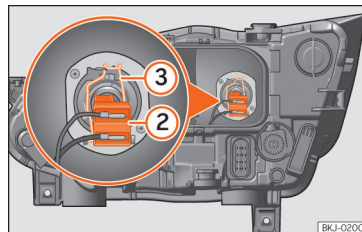

Fig. 55 In the engine compartment: dipped beam headlight bulb.
- Remove the bulb connector »» **Fig. 55 2**.
- Unclip the retainer spring »» Fig. 55 ③ pressing inwards to the right.